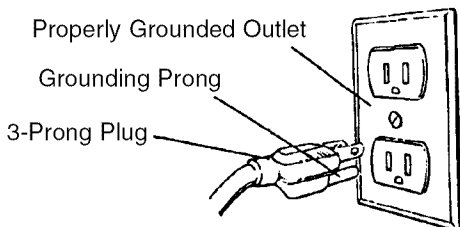

Figure 4 - 3-Prong Receptacle
- This tool is equipped with an approved cord rated at 150V and a 3-prong grounding type plug (see Figure 4) for your protection against shock hazards.
- Grounding plug should be plugged directly into a properly installed and grounded 3-prong grounding-type receptacle, as shown (see Figure 4).